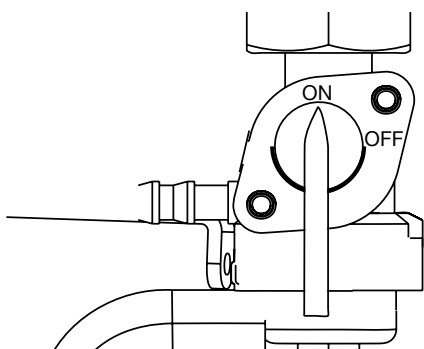

Figure 8 - Fuel Shut Off - ON
3. Move the fuel shut off valve to the ON position (see Figure 8 below).